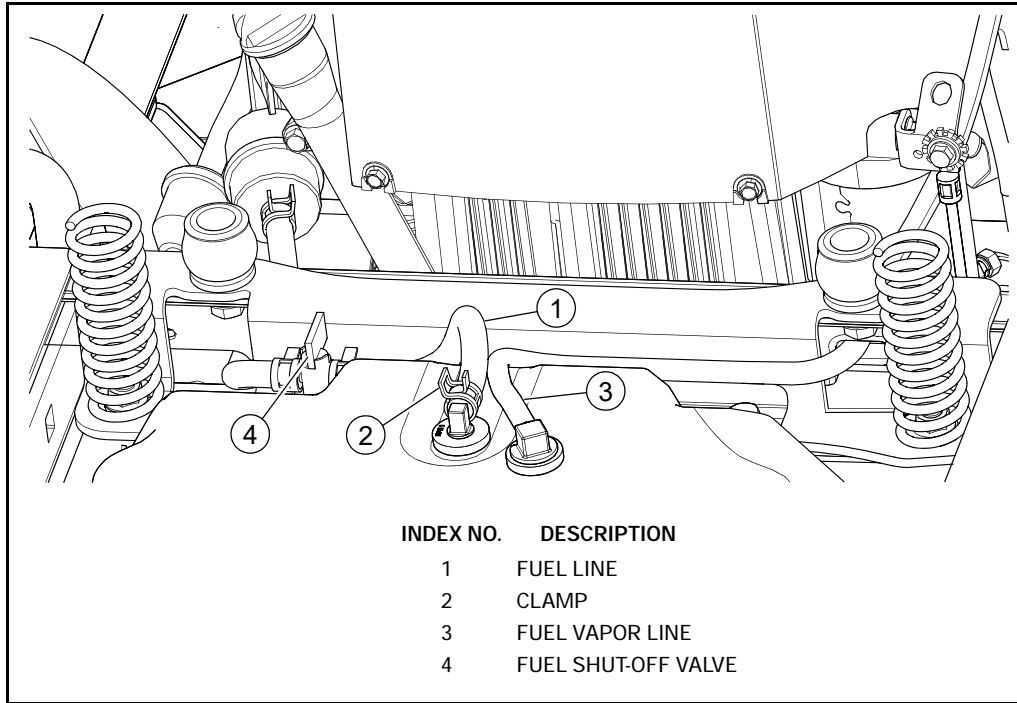

FIG. 5
8. Route the fuel line and fuel vapor line through the spring mount bracket. Connect the lines to the fuel tank. Make sure the fuel line clamp is secure and the fuel vapor line is properly installed. Turn the fuel shut-off valve to the "ON" position. FIG. 5